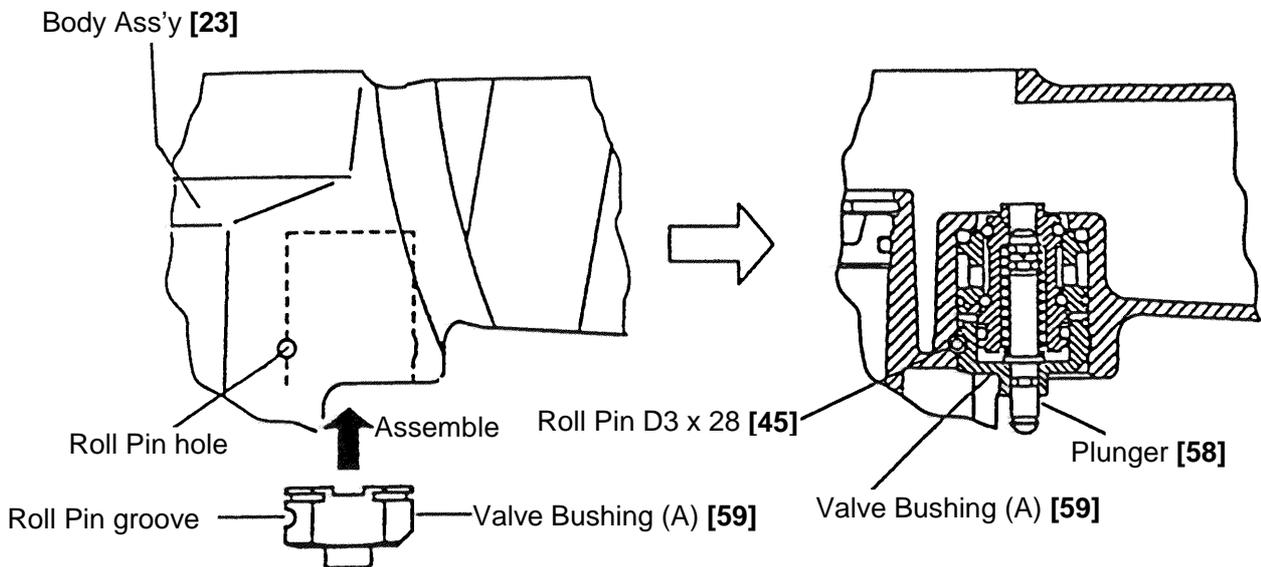

Fig. 17
- Thoroughly apply grease to the O-Ring (ID 1.8) [57] of the Plunger [58], O-Rings [53] and [55] (S-4), (ID 8.6) and (ID 11) of the Valve Piston [54], and the shaft of the plunger [58] shown in Fig. 17.
- As shown in Fig. 17, install Valve Bushing (A) [59] so that the Roll Pin groove in Valve Bushing (A) [59] will be aligned with the Roll Pin hole in the Body Ass'y [23]. First, insert the roll pin puller (3 dia.) into the roll pin hole. Then, upon confirming that the puller passes through the hole, drive in the Roll Pin D3 x 28 [45].